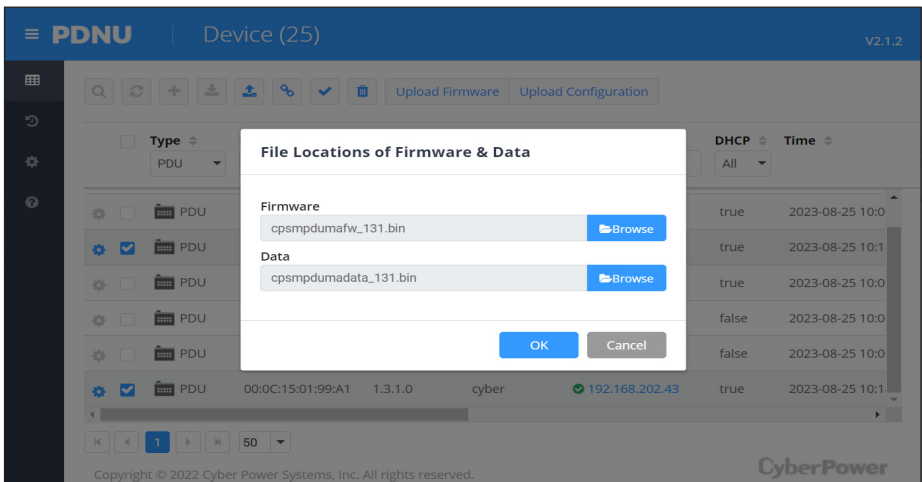

Figure 4
7. Click **Browse** to locate and select the firmware and data file to be updated and then click **OK** (Shown in Figure 4).